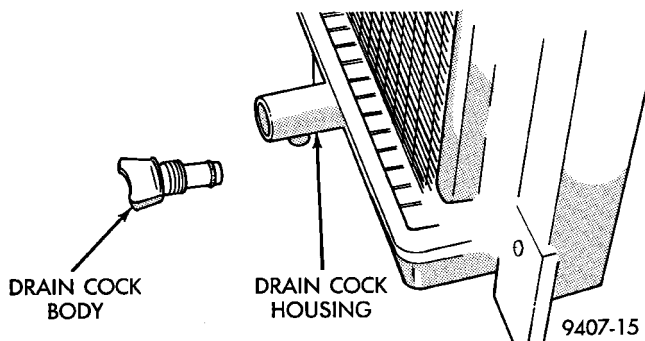

Fig. 23 Draincock
(1) Turn the drain cock stem counterclockwise to unscrew the stem. When the stem is unscrewed to the end of the threads, pull the stem (Fig. 23) from the radiator tank.